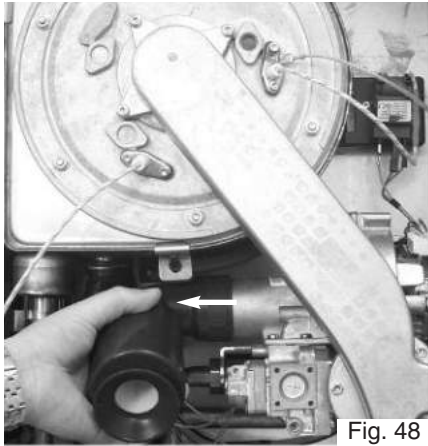

Fig. 48
3. Remove the silencer (Fig. 48);